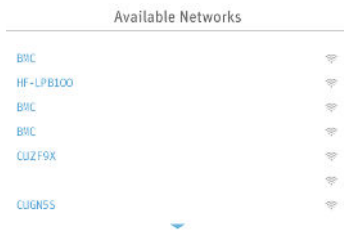
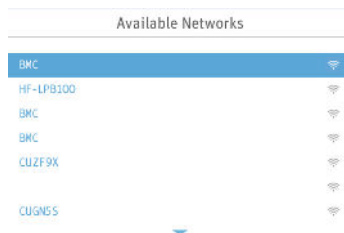

Fig. 15-7
Fig. 15-8
(3) The **"WiFi"** setup interface displays a certain number of available WiFi networks in a random order, as shown in Fig. 15-7. If a page turning symbol  appears below the WiFi network list, it indicates that when the cursor is on the last WiFi network on that page, the user can turn **the Knob**  to the right to see the remaining WiFi networks, as shown in figures 15-8. If the desired WiFi network is not listed, disconnect the device from the power supply, connect it to the power supply again, and then repeat steps (1) (2) to search for WiFi networks. Keep searching until the desired WiFi network is found.